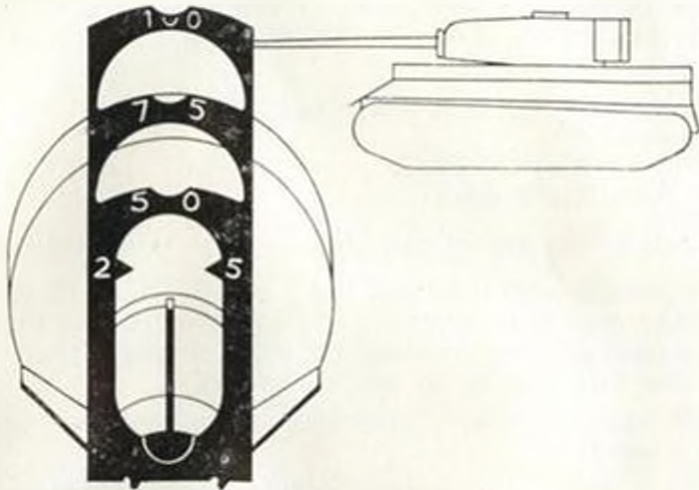

Fig 4.—Correct aim—moving target 75 yards—10 mph
19. *Crossing targets (see Fig. 4).*—It is necessary to aim off all targets crossing the front. The amount of "aim off" will depend on the range and speed. The best method is to aim off in target lengths for then the angle at which the target is moving need not be considered, because the narrower the angle of movement across the front, the smaller is the apparent length of the tank, and the less lateral speed it attains.